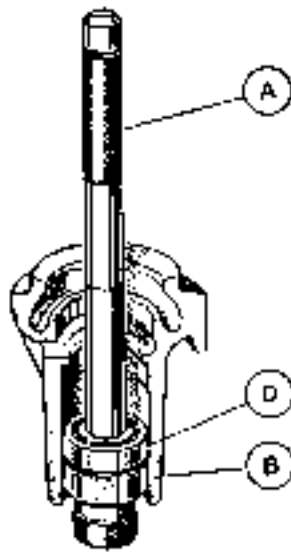

Fig. C.6
Position the dummy front bearing (B) in the pump body and screw the driver into the dummy bearing (Fig. C.6). The rear bearing is now aligned with the housing and may be gently tapped out.